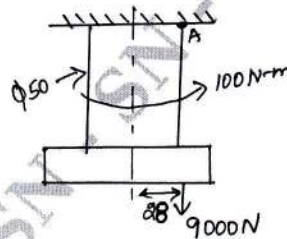

Fig.Q2(b)
- b. A 50mm diameter steel rod supports 9 kN load and in addition is subjected to a torsional moment of 100 N-m as shown in Fig.Q2(b). Determine maximum tensile and maximum shear stress. (07 Marks)